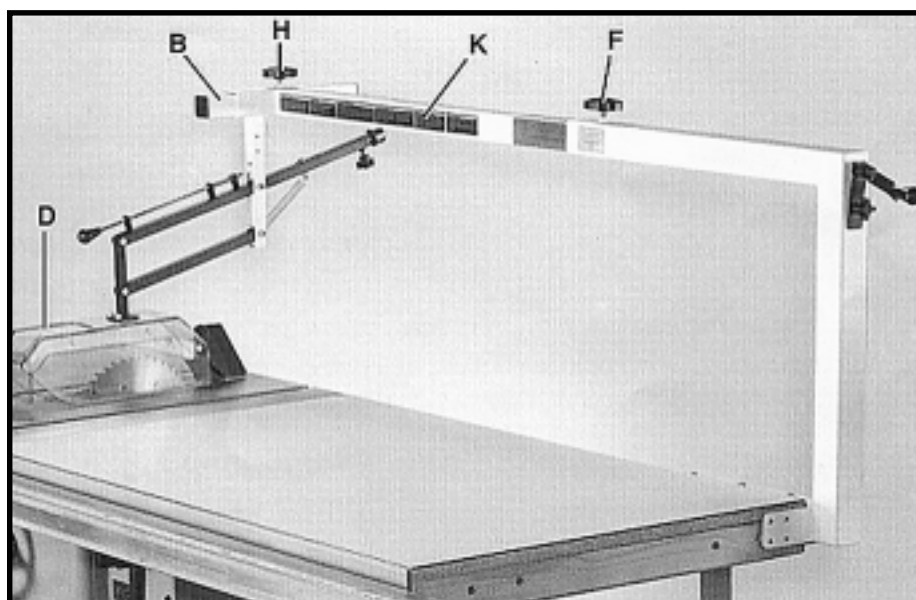
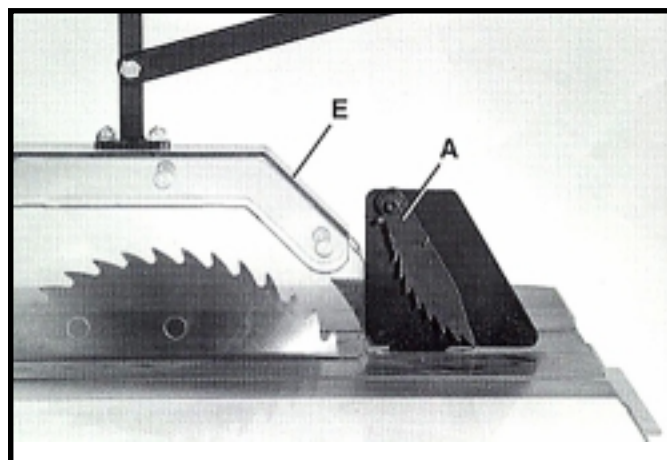

Fig. 24
Fig. 25
21. Loosen the two locking knobs (F) and (H) Fig. 24, and adjust the two arms (B) and (K) until the guard basket (D) is centered over the saw blade. **IMPORTANT: Make certain the rear end of the guard basket frame (E) Fig. 25, is 3/8" away from the front of the splitter (A) and tighten the two locking knobs (F) and (H) Fig. 24.**